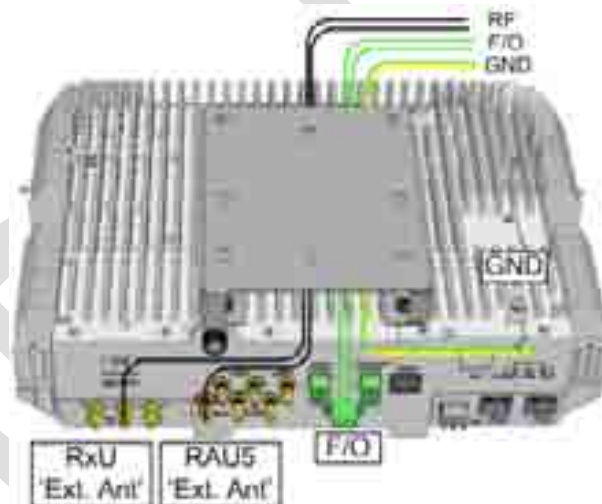

Figure 5-92. GND, F/O and RF Cable Connections
3. Connect optic fiber pair to RAU5 module LC APC optic connector. See Figure 5-92.